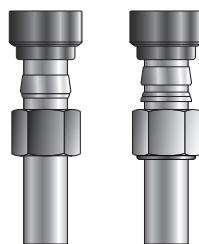
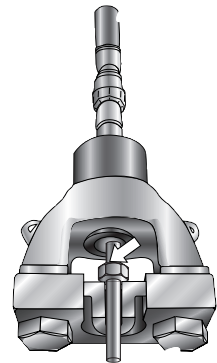

Figure 43
Figure 45
1. Assemble CPI™/A-LOK® nut, CPI™/A-LOK® Ferrule(s) and body die onto tubing as shown in Figure 43. Be sure that the tapered end of the Ferrule(s) point toward the body die.
3. Insert Tube Assembly, Figure 43 into Nut Die as shown in Figure 45.